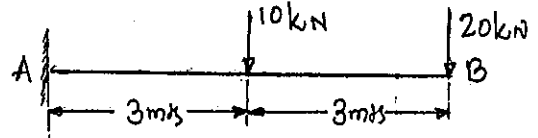

Fig.Q2(b)
- b. Determine the slope and deflection at the free end of a cantilever beam shown in Fig.Q2(b), by conjugate beam method. Take $E = 2 \times 10^5 \text{ N/mm}^2$ and $I = 2 \times 10^8 \text{ mm}^4$. (10 Marks)